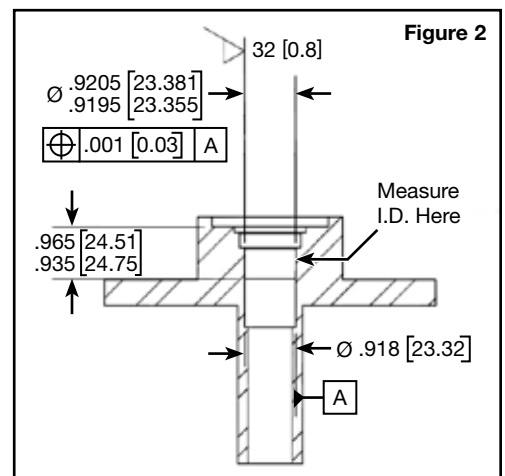

Figure 2
- For 6F35 units only, machine stator support tube to specification (Figure 2). The higher side of this tolerance is ideal.